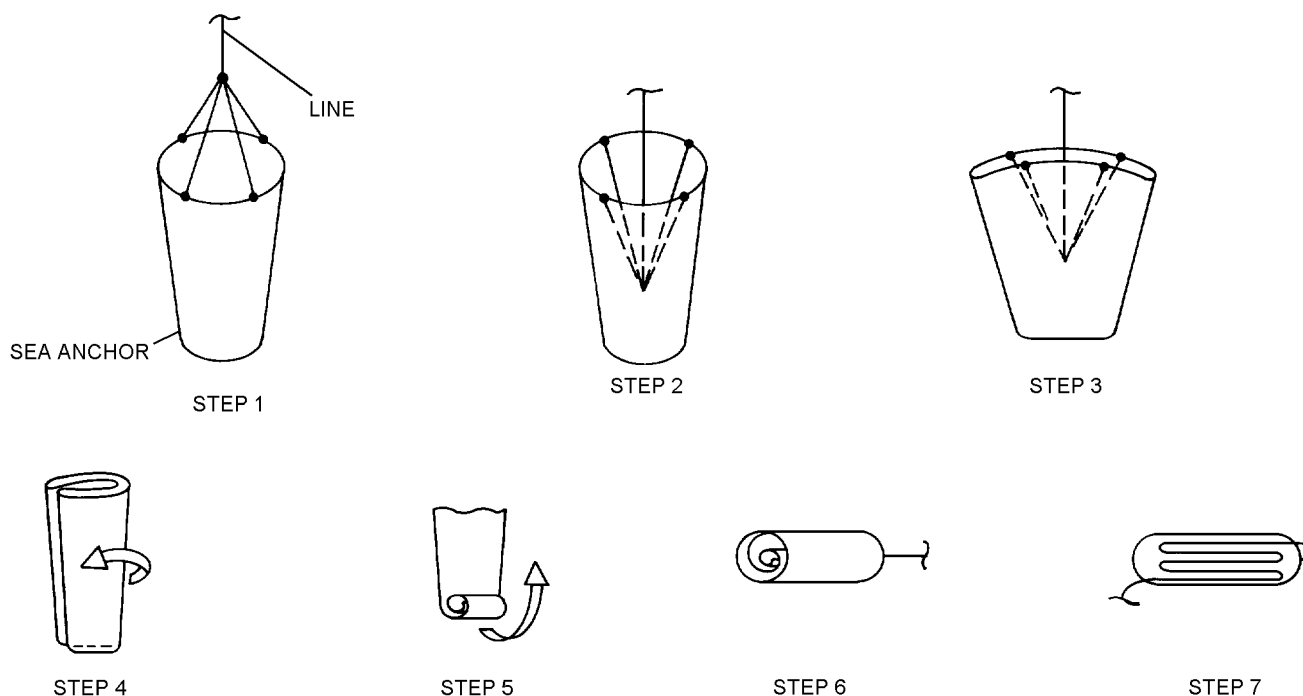

Figure 4-11. Stowing Sea Anchor and Line
3. If necessary, stow sea anchor (see figure 4-11).